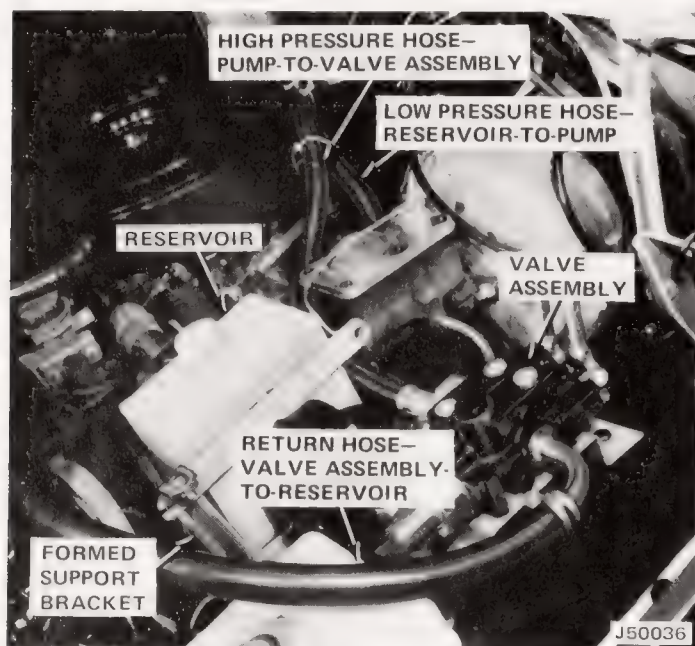

Fig. 1-54 Reservoir Installation—Cherokee-Wagoneer-Truck
(a) Cherokee-Wagoneer-Truck—Position on left side of engine compartment (fig. 1-54).
(6) Form bracket as required for installation of reservoir. (Bracket material is supplied with modification kit.)
(7) Drill necessary holes and install reservoir with screws, flat washers, lockwashers, and nuts (fig. 1-54 and 1-55).